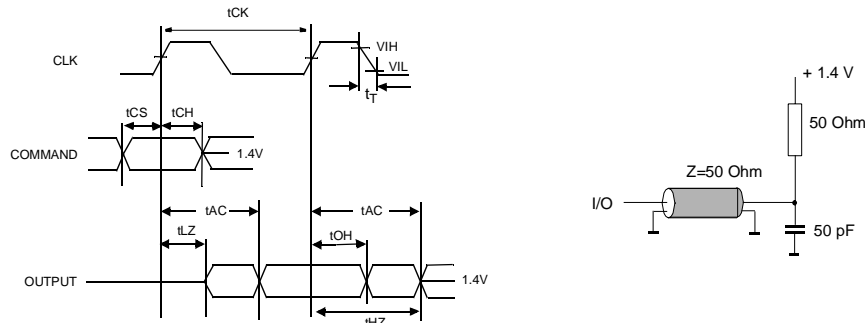

Figure 1.
2. AC timing tests have $V_{IL} = 0.8V$ and $V_{IH} = 2.0V$ with the timing referenced to the 1.4 V crossover point. The transition time is measured between V_{IH} and V_{IL} . All AC measurements assume $t_T = 1ns$ with the AC output load circuit shown in Figure 1.